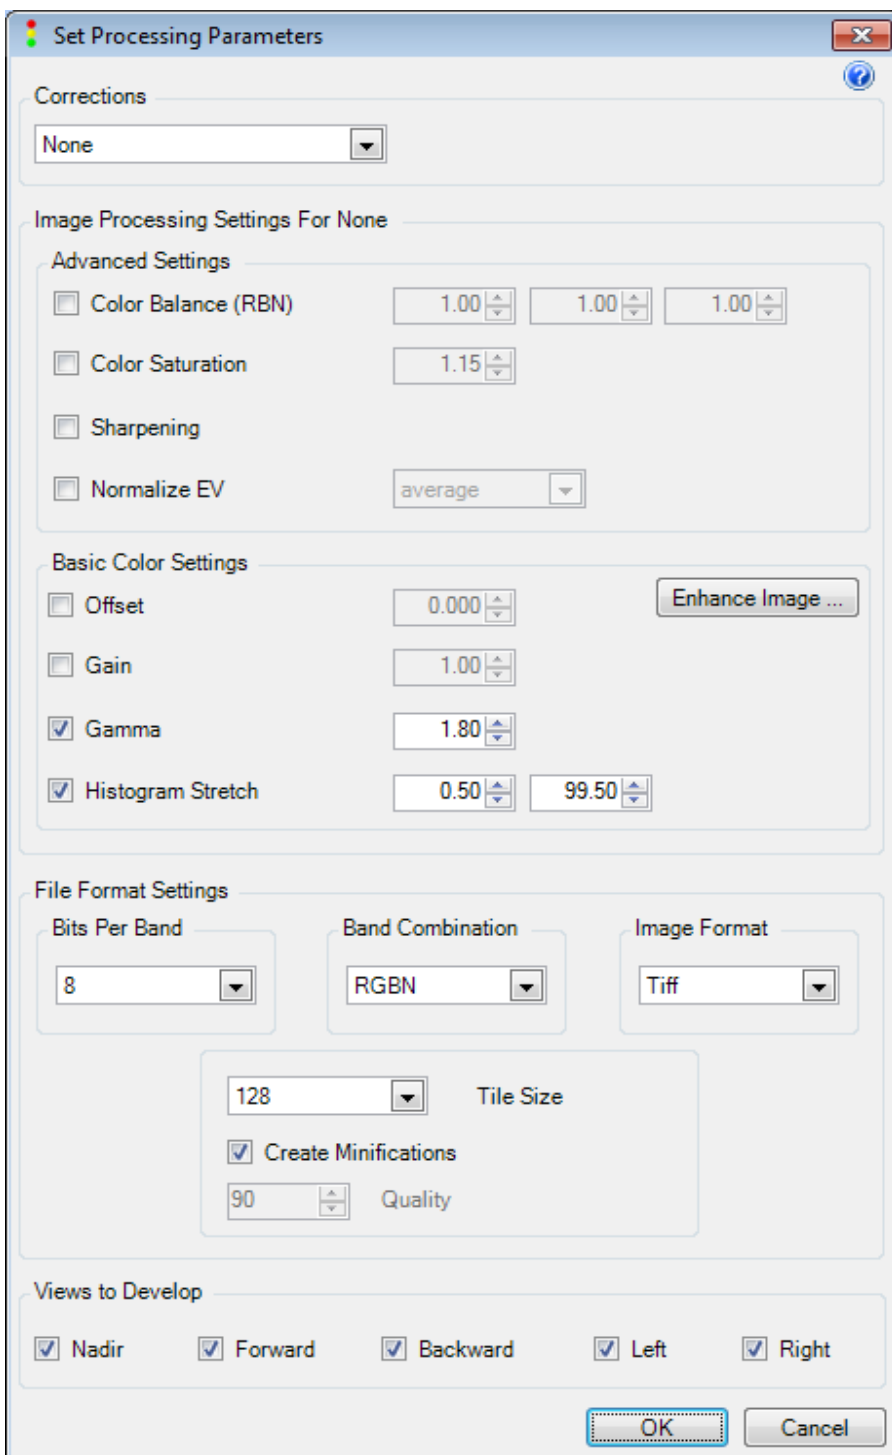

Fig. 1.9
- Whenever the user imports a FramePro project into GeoCue, a copy of the corresponding FramePro "settings.ini" file is maintained (attached to the project boundary). Using the dialog (Fig. 1.9), the user has the ability to change these settings (processing parameters), and whenever